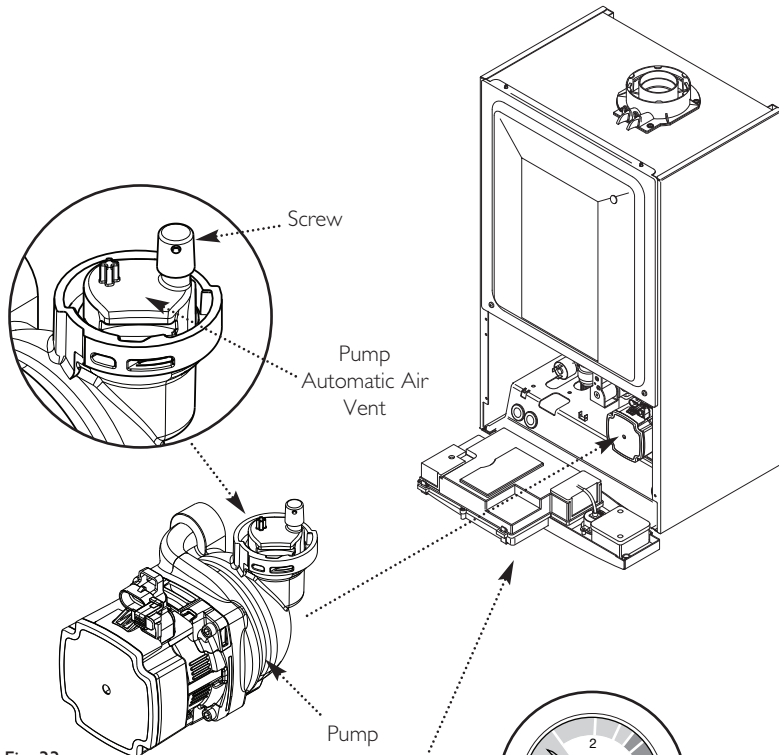

Fig. 33
6. Open the screw on the automatic air vent on the pump body (Fig. 33).